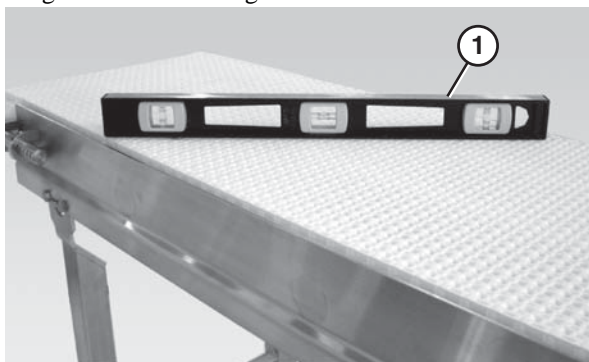

Figure 24
4. Use a level (**Figure 24, item 1**) to verify that both stand legs are the same height.